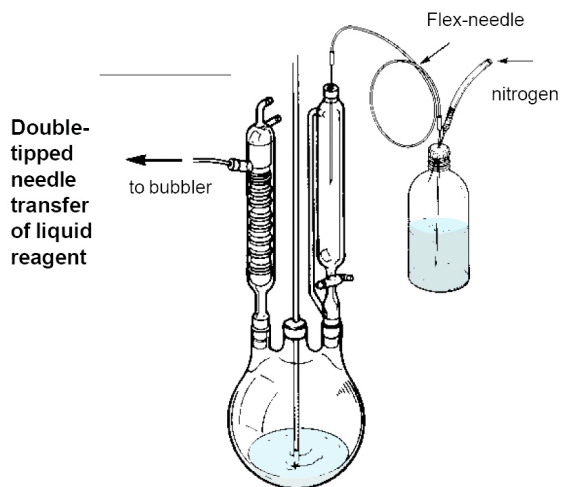

Fig. 3A Double-tipped needle transfer of liquid reagent
- Pressurize the Sure/Seal bottle with nitrogen and then insert the double-tipped needle through the septum into the headspace above the reagent. Nitrogen will pass through the needle. Insert the other end through the septum at the calibrated addition funnel on the reaction apparatus which must be equipped with a gas line to a bubbler. Push the needle into the liquid in the Sure/Seal reagent bottle and transfer the desired volume. Then withdraw the needle to above the liquid level. Allow nitrogen to flush the needle. Remove the needle first from the reaction apparatus and then from the reagent bottle. (**Fig. 3A**)